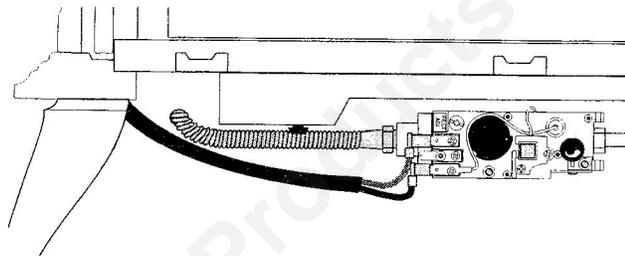

Figure 44. Flexible gas supply line connection.
2. Connect the main gas supply line to the inlet on the left side of the control valve. Fig. 44.